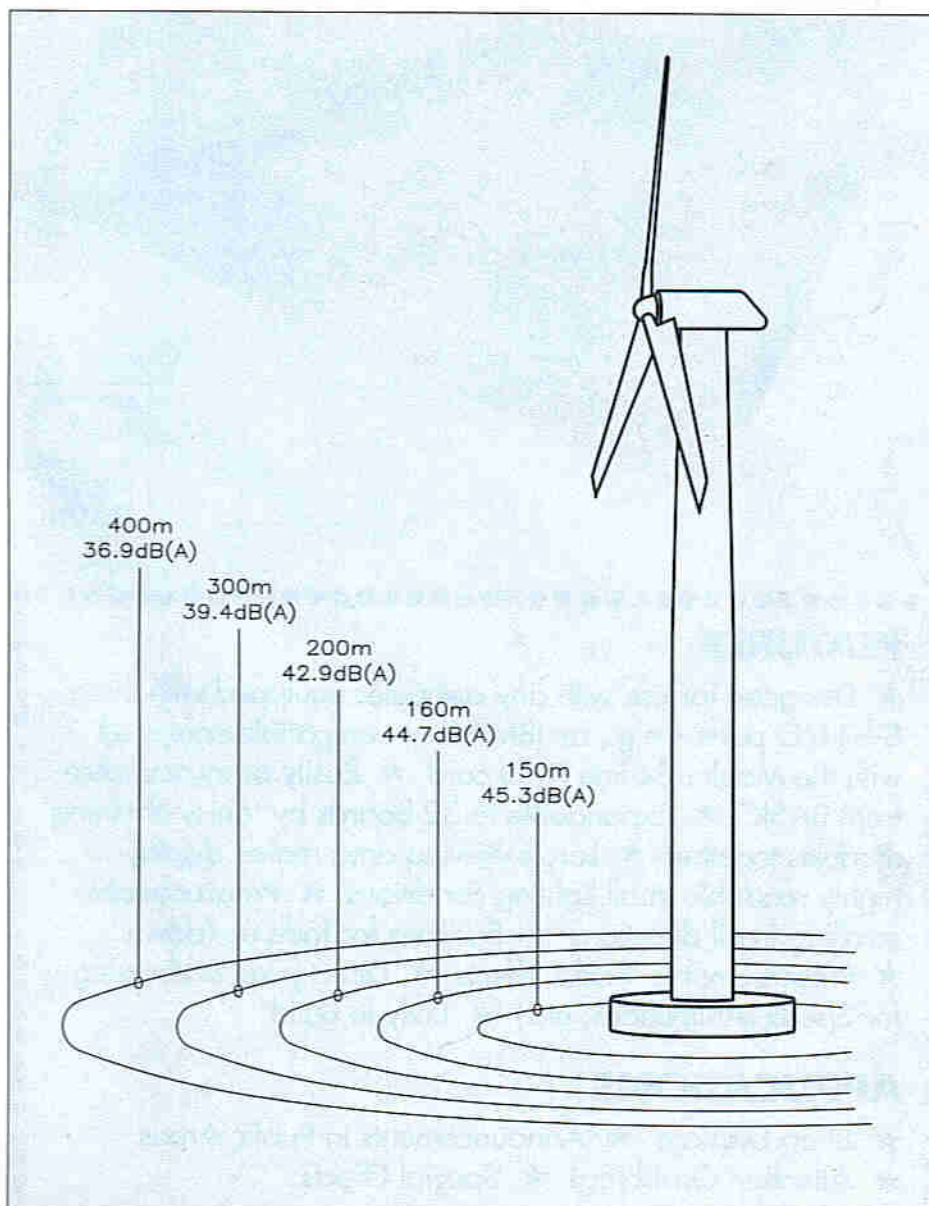

Figure 4. Noise levels for large-scale wind turbine.
Noise is not such a problem. Figure 4 shows a typical noise level in dB(A) caused by a wind turbine – at a distance of 42.9m, the noise level is less than that experienced in a house during the day. For a wind farm of thirty 300kW machines, 45dB(A) at a distance of 500m from the nearest machine is typical.